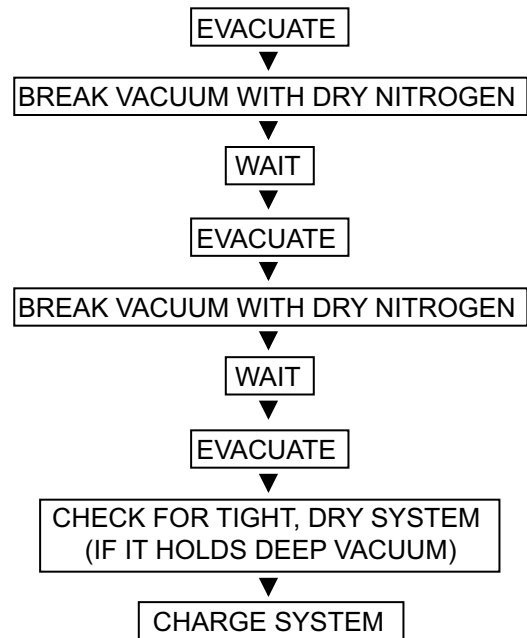

Fig. 67 – Triple Evacuation Method
The triple evacuation method should be used when vacuum pump is only capable of pumping down to 28 in. of mercury vacuum and system does not contain any liquid water. Refer to Fig. 67 and proceed as follows:
5. Repeat this procedure as indicated in Fig. 67. System will then be free of any contaminants and water vapor.